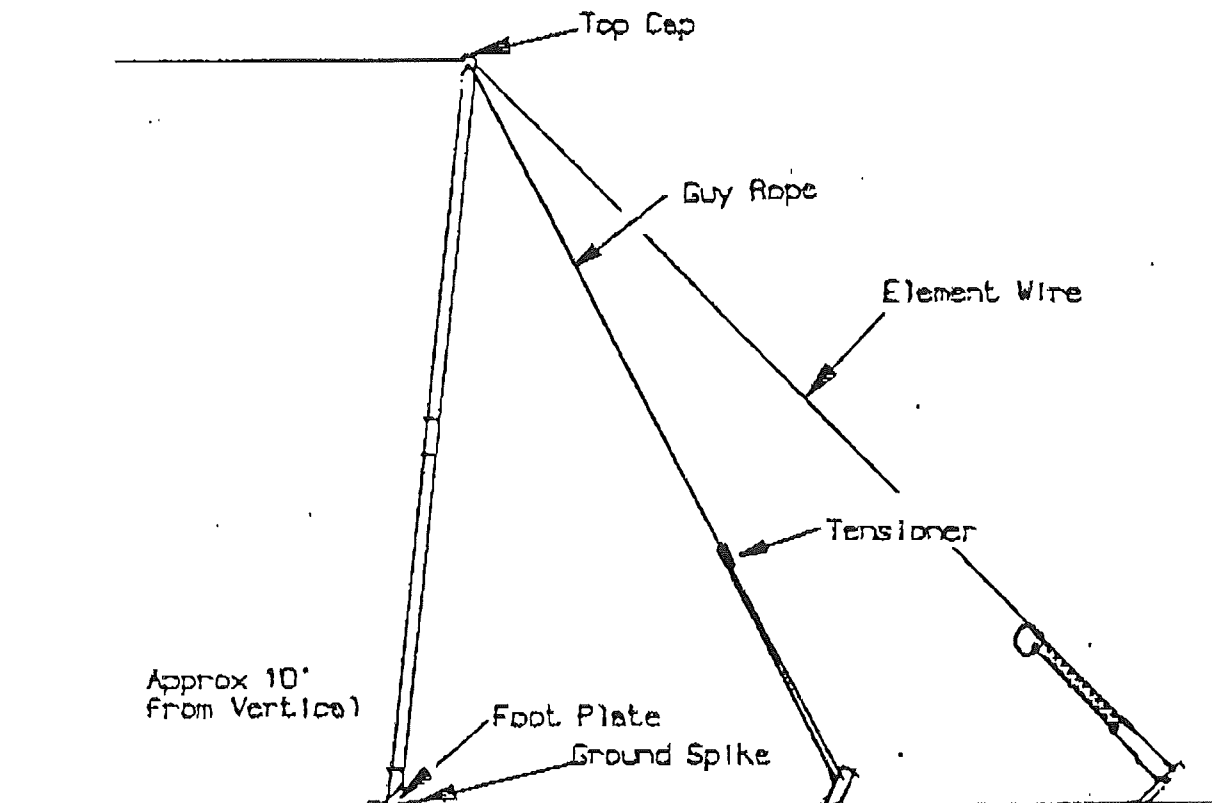

Figure 5-14. Half Rhombic Termination
- Step 12 If space permits, lay out a ground mat in front of the antenna. Attach the 220 foot Aerial Wire Assembly to the wing nut terminal on the Ground Peg Assembly. Run out the wire in a straight line towards the distant station. Check back to see that you are lined up properly with the element wire and mast. (See Figure 5-14.)